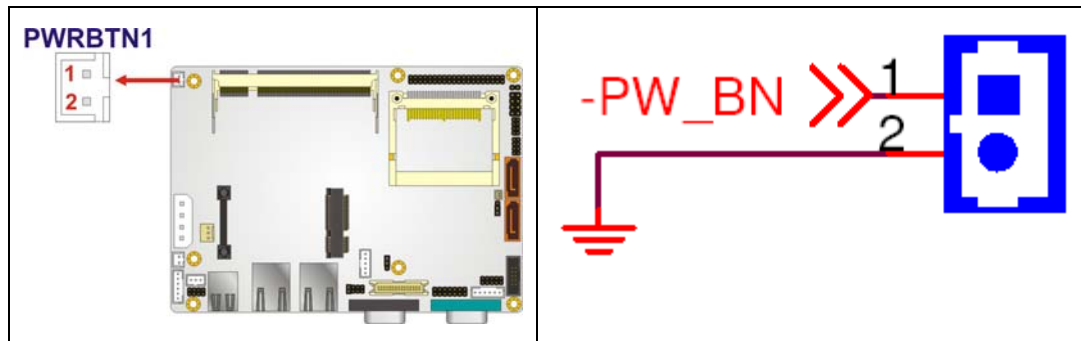

Figure 3-8: Power Button Connector Location
- CN Location:** See **Figure 3-8**